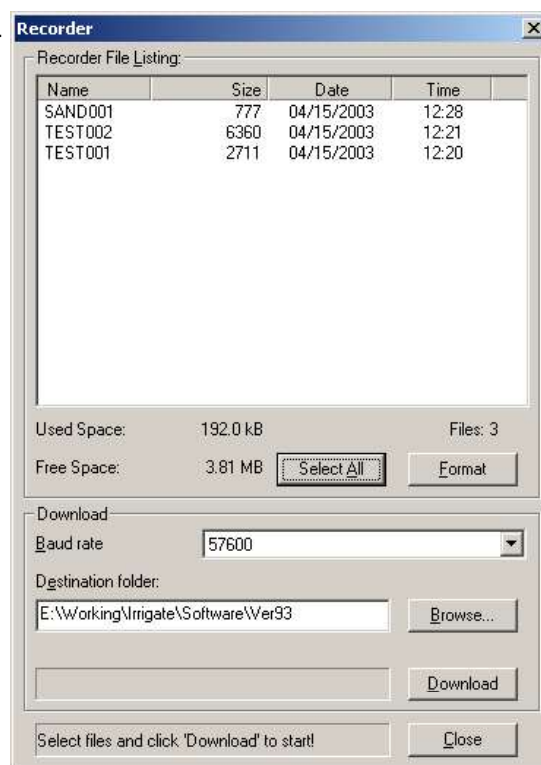

Figure 6-1. SonUtils Recorder module
- Click the **Recorder** button on the left side of the *SonUtils* screen. This opens the recorder interface that displays the contents of the internal recorder. An example is shown in Figure 6-1.